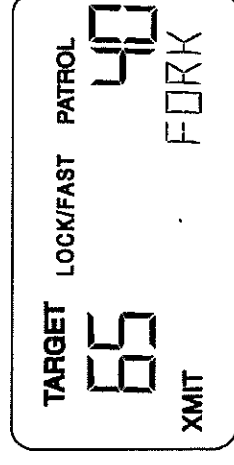

Fig. 50
To perform the tuning fork test: press the **PWR** key, press the **MOV/STA** key and select moving mode, select the **FSAM** mode with the **DIRECTION** key. Press the **TEST** key and wait for the tuning fork mode following the internal test sequence. Turn the transmitter on with the trigger or remote control, then strike the 40 mph (64 kph) tuning fork against a hard nonmetallic surface, such as the heel of a shoe. Quickly hold the tuning fork approximately two (2) inches in front of the antenna, with the narrow edge of the fork facing the antenna. The patrol window should indicate 40 ± 1 mph (64 kph). Then move the lower speed fork in front of the antenna with the narrow edge facing the antenna. The target window should register $65 \text{ mph} \pm 2 \text{ mph}$ (104 kph) (Fig. 50), which is the sum of speeds of the two forks. Repeat the above test with the rear antenna selected, if installed.